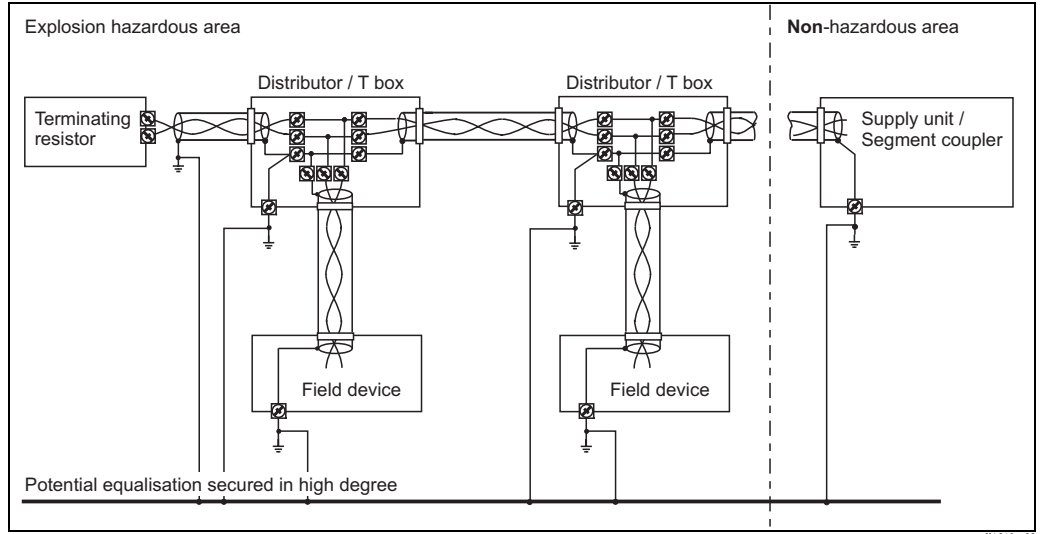

Fig. 2
- For earthing the screen see the following figure: 2 and 3.